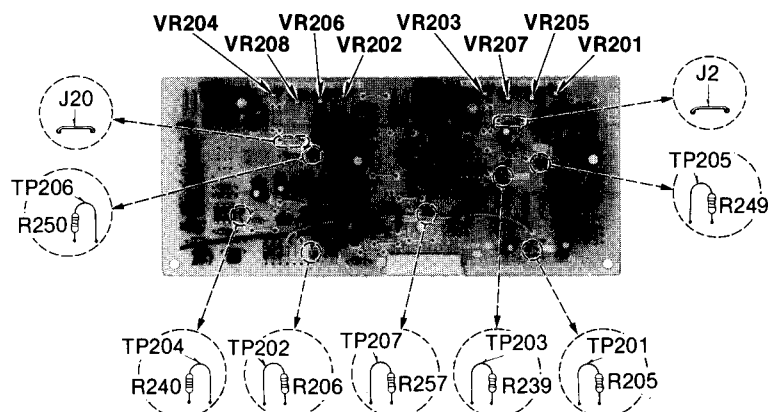

Fig. 2
② Adjustment of VCA Condition: • Record stop mode • Input level controls ... MAX • Noise reduction selector ... disc/dbx tape Equipment: • VTVM • Oscilloscope • Resistor (100Ω, 3.9Ω)	Preparation before adjustment 1. Before adjusting VCA, from the device shown below using resistors of 100Ω and 3.9Ω (See fig. 8). 2. Set NR switch to dbx disc. Remove jumpers [J2 (L-CH) and J20 (R-CH)]. 3. Arrange connections referring to wire connection diagram (fig. 9 and 10), since 0V, +180mV and -180mV (DC) are applied in this order to pin 2 of IC201 (L-CH) and pin 2 of IC202 (R-CH).  Fig. 8  Fig. 9 Connections when applying +180mV and 0V Adjust DC power supply and arrange connections so that +180mV or 0V can be applied to TP203 (L-CH) and TP204 (R-CH).  Fig. 10 Connections when applying -180mV Adjust DC power supply and arrange connections so that -180mV can be applied to TP203 (L-CH) and TP204 (R-CH). Adjustment procedure 1. Apply 0V to pin (2) of IC201 (L-CH) and pin (2) of IC202 (R-CH), and a horizontal line will appear on the screen of the oscilloscope. Use this line as the reference line. 2. Apply +180mV to pin (2) of IC201 (L-CH) and pin (2) of IC202 (R-CH) (See fig. 9), and check that the level is not more than 10mV from the reference line. If improper, adjust VR201 (L-CH) and VR202 (R-CH). 3. In the same way, apply -180mV to pin (2) of IC201 (L-CH) and pin (2) of IC202 (R-CH) (See fig. 10), and check that the level is not more than 10mV from the reference line. If improper, adjust VR201 (L-CH) and VR202 (R-CH). 4. Repeat steps 2 and 3, and adjust VRs so that the levels are within ± 10mV when +180mV and -180mV are applied (fig. 11). 5. After adjustment, connect jumpers J2 (L-CH) and J20 (R-CH) (See fig. 2).  Fig. 11
③ Adjustment of dbx standard level Condition: • Record/stop mode • Input level controls ... MAX	NOTE: Be sure to perform the standard level adjustment in dbx Encode, followed by the standard level adjustment in dbx Decode.